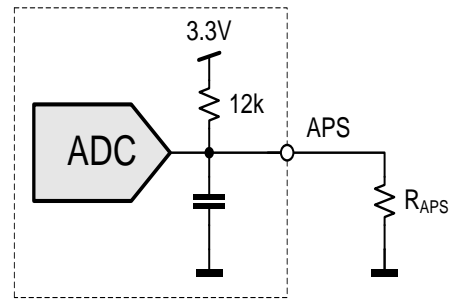

Figure 35. I2C address and protocol setting
1) E12 resistor values, use max 5% resistors, see also *Figure 35*.